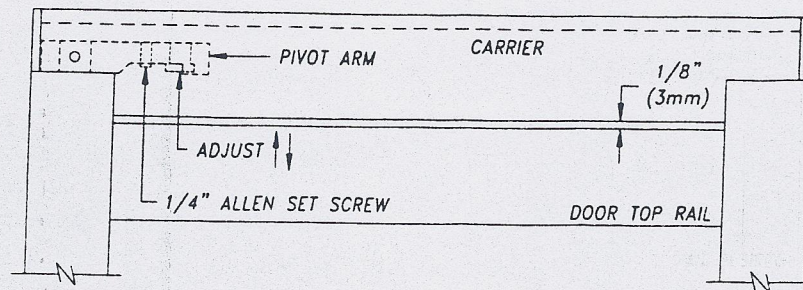

FIGURE 17: Door/Carrier Adjustment
9. Next, break open the door and panel. Slowly close the door and check the clearance between the top of the door and the bottom of the carrier. If the clearance is not $1/8"$ (3mm), loosen the $1/4"$ (6mm) allen head set screw at the bottom of the carrier. Adjust the clearances as required by turning the large allen head bolt. After setting the correct clearance, re-tighten the $1/4"$ (6mm) allen head set screw (Figure 17).